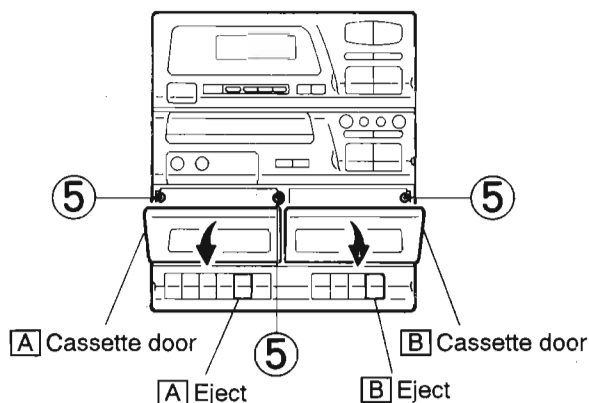

Fig. 5-5
■ How to Remove the Front Cover (Refer to Figs. 5-5~5-9)
1. Press the eject button of the cassette decks A and B, and open the cassette door (Refer to Fig. 5-5).
2. Remove the three screws (5) retaining the front cover ass'y as shown in Fig. 5-5.